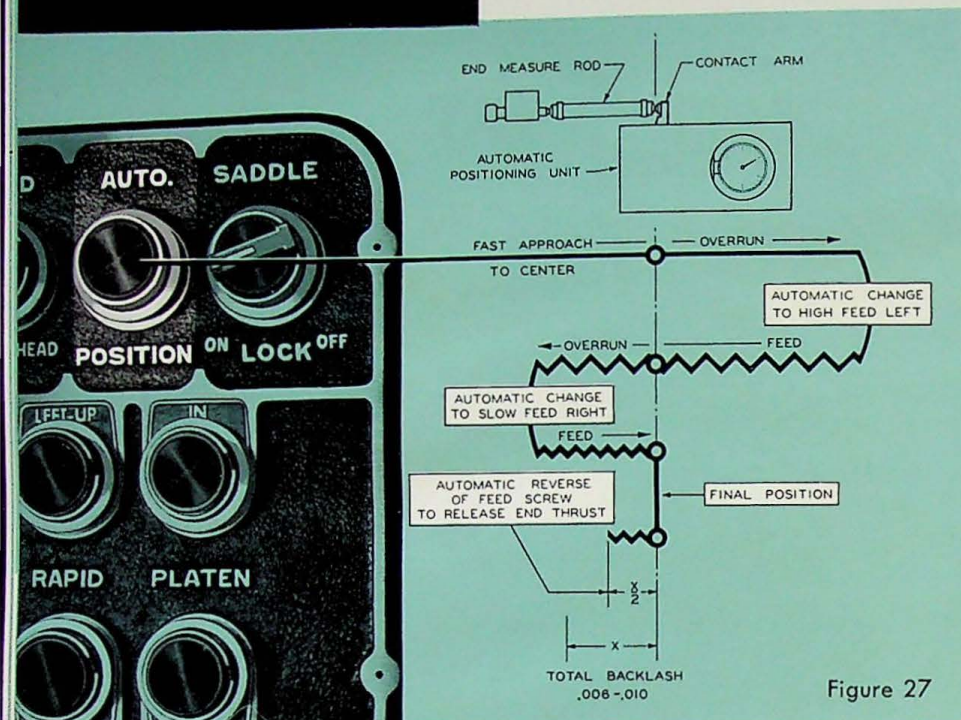
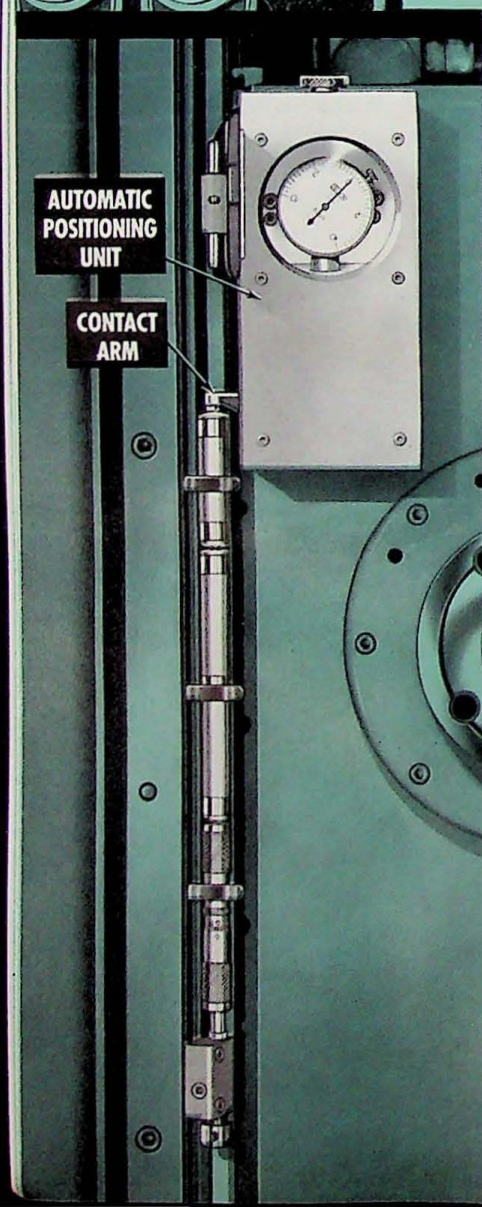

Figure 27
Figure 28
Automatic Positioning for machine table and spindle head is furnished as standard equipment with all **SPIRAMATIC JIGMILS**. The DeVlieg System of positioning the machine table and spindle head in the horizontal and vertical planes is performed automatically through a patented sequenced electrical cycle. This important feature provides a means for controlling hole spacing in the work piece to precise limits of accuracy through the simple operation of a single push button. The diagram (Fig. 27) shows the path of travel of the machine table and spindle head during the automatic positioning cycle. The sequence of operations is as follows:
2. The push button (Fig. 27) marked "AUTO POSITION" is then depressed, causing the machine table or spindle head to move by rapid traverse until the measuring element contacts the contact arm projecting from the automatic positioning unit (Fig. 28). The automatic positioning cycle is then completed by oscillating the table and spindle head about the zero line at successively slower feeds, stopping these elements within precise limits of the position determined by the end measure gages or Duplitrol bars. At the position of final location, the machine automatically releases the end thrust of the feed screw so that the table or spindle head can be locked securely without affecting its accurate location.
Illustration (Fig. 28) shows the Automatic Positioning Unit with built-in dial indicator for controlling the location of the machine spindle head in the vertical plane. A similar positioning unit is mounted on the front side of the machine bed for automatically positioning the table in the horizontal plane.